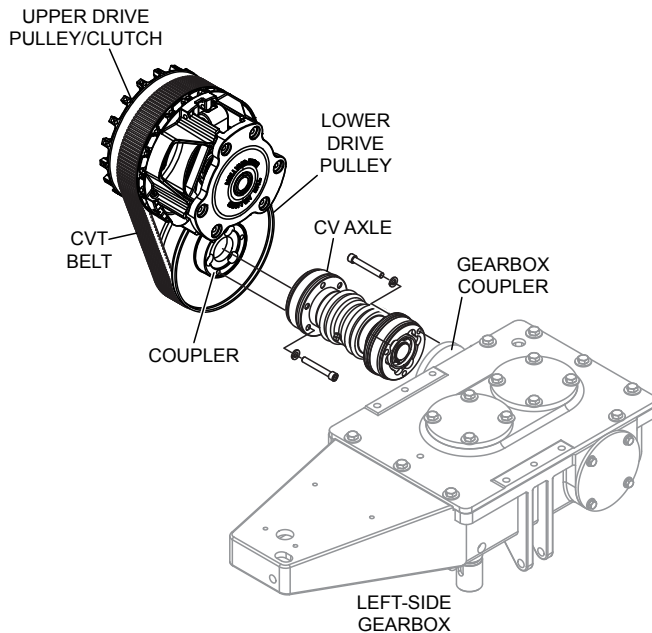

Figure 30. Remove Left-Side CV Axle
2. Disconnect the left-side CV Axle from the left-side gearbox and the lower drive pulley coupler. See Figure 30.
3. Reconnect left-side CV Axle Assembly to the left side gearbox and lower drive pulley coupler. See Figure 30.